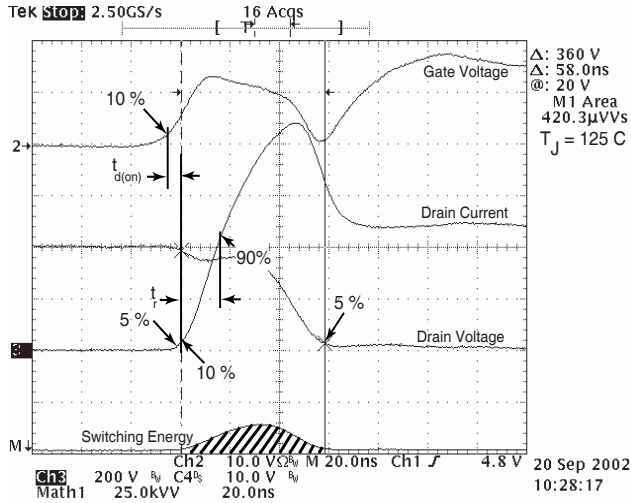

Figure 18, Turn-on Switching Waveforms and Definitions
① Repetitive Rating: Pulse width limited by maximum junction temperature
② Pulse Test: Pulse width < 380  $\mu s$ , Duty Cycle < 2%
③ See MIL-STD-750 Method 3471
④ Starting  $T_j = +25^\circ C$ ,  $L = 4.51mH$ ,  $R_G = 25\Omega$ , Peak  $I_L = 24A$
⑤  $dv/dt$  numbers reflect the limitations of the test circuit rather than the device itself.  $I_S \leq -I_{D24A}$   $di/dt \leq 700A/\mu s$   $V_R \leq V_{DSS}$   $T_j \leq 150^\circ C$
⑥  $E_{on}$  includes diode reverse recovery. See figures 18, 20.